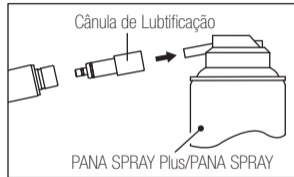

Fig. 8
- 3) Lubrifique a turbina com NSK PANA SPRAY Plus/PANA SPRAY (Fig.8,9) ou Care3 Plus.